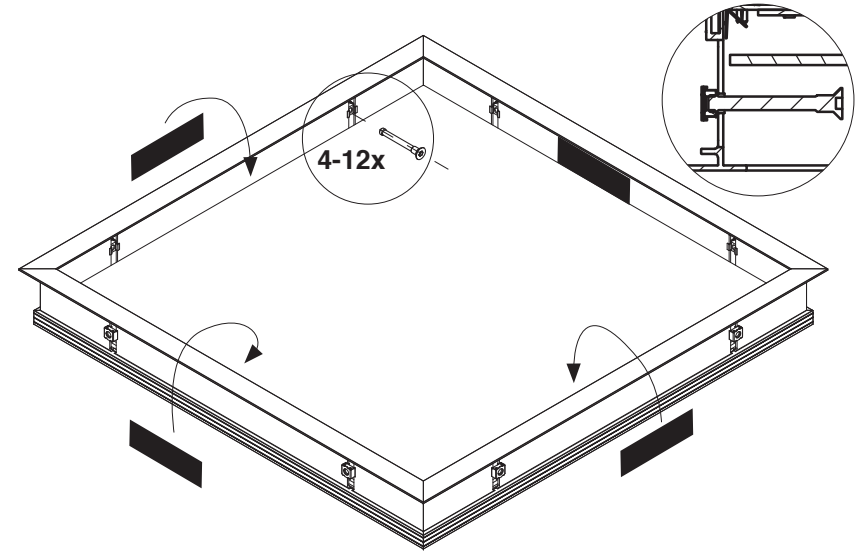

Figure 1
2. Cut the necessary opening for the fixture and ensure the plenum space is free of obstructions. (See Table 1) **IMPORTANT:** Ceiling must have a thickness of 1/2" to 1" maximum and at least 4" of plenum space. Mounting surface must be rated to support the weight of the fixture. Do not use powered tools as they may damage the fixture. NOTE: Two installers are necessary for installation steps six (6) and seven (7).
3. Place the included cardboard cutouts along the inside of the fixture to wedge the lens in place. (See Figure 1)
5. Partially fasten all of the included mounting screws from the inside by hand until they are entirely inside the pem-nut. (See Figure 1)